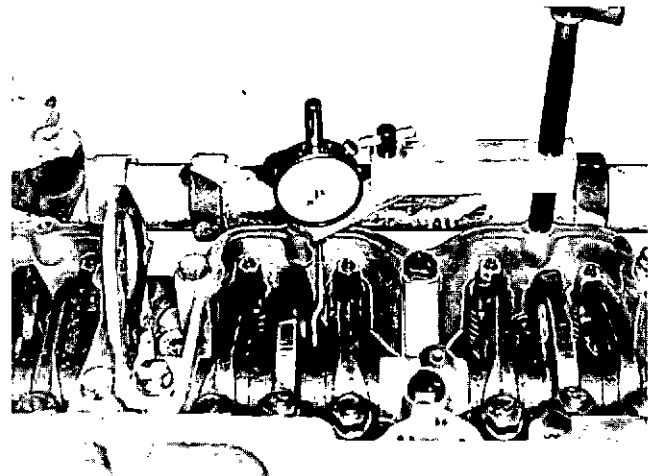

Fig. 2-44 (N114231) Dial indicator in place - extension in contact with plunger, N-Series
2. Set up ST-1170 Indicator Support with indicator extension on injector plunger top at No. 3 cylinder, Fig. 2-44. Make sure indicator extension is secure in indicator stem and not against rocker lever.